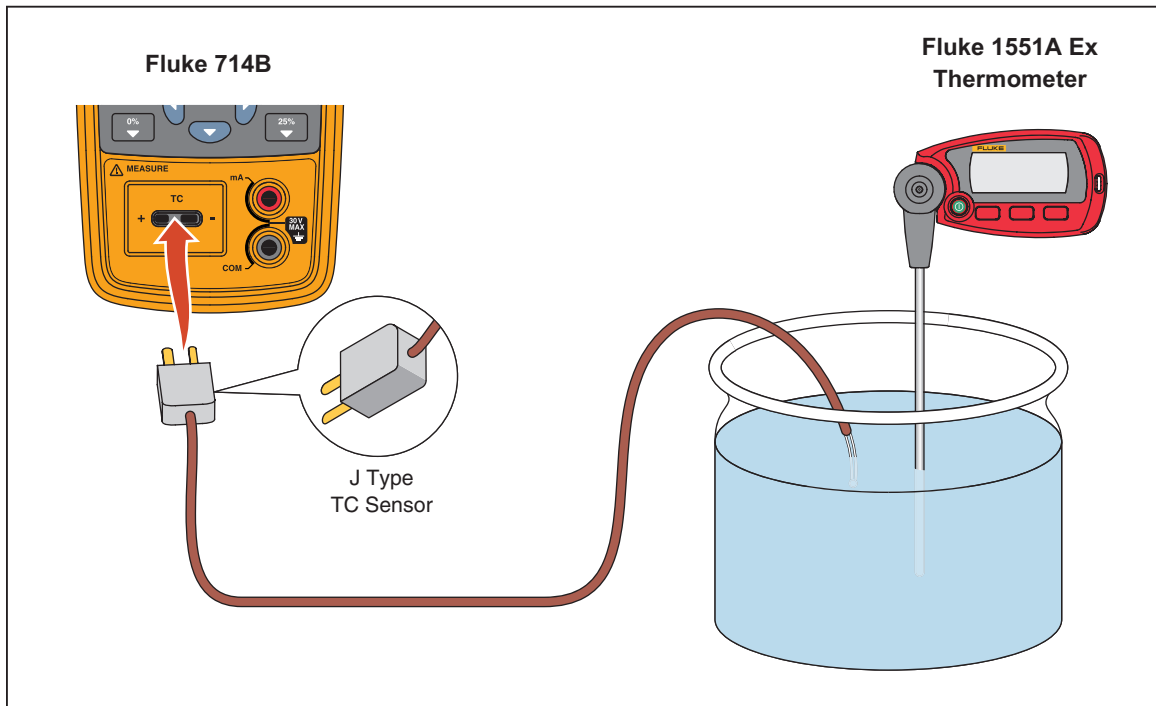

Figure 18. Use Lag Bath to Adjust Cold Junction Temperature
1. Connect the lag bath and the 714B via the J type thermocouple sensor, and immerse the thermocouple and a precision mercury thermometer in the mineral oil lag bath, as shown in Figure 18.